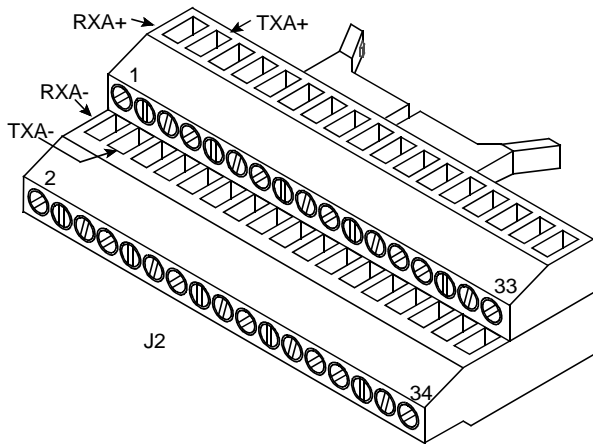

Figure 7-20 J2 CONNECTOR
2. Connect a **balanced** AC voltmeter with 600 ohm input impedance between balanced lines RXA+ and RXA- of J2 located on the back of the Repeater (see Figure 7-20).